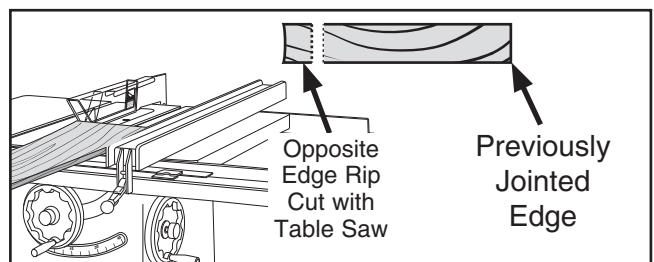

Figure 56. Rip cutting on table saw.
2. Place jointed edge of 2x4 against table saw fence and rip cut just enough off opposite side to square up two edges of 2x4, as shown in **Figure 56**.